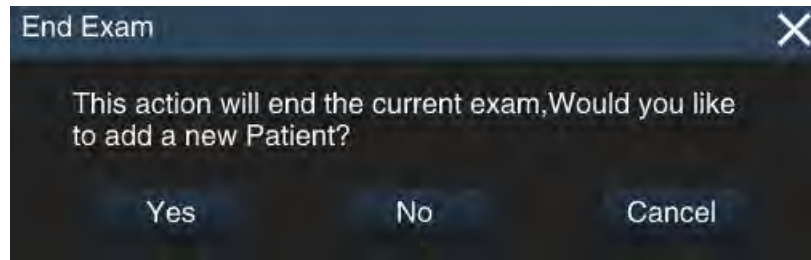

Figure 75: End Exam
- Quickly creation of new patient information: Click on **End Exam** on the control panel; this displays the **End Exam** prompt on the screen (see Figure 75). Use the trackball to move the cursor to **Yes** and click on the **Set** button to confirm the conclusion of the current examination and create new patient data.